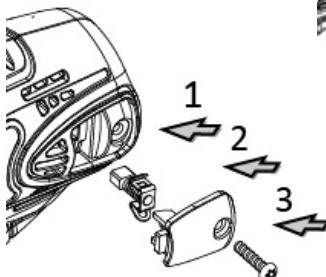

Fig. 2
- B. Replace two new carbon brushes to both right and left sides. (See Fig. 2, step 1)
(See Fig. 2, step 2 & 3).